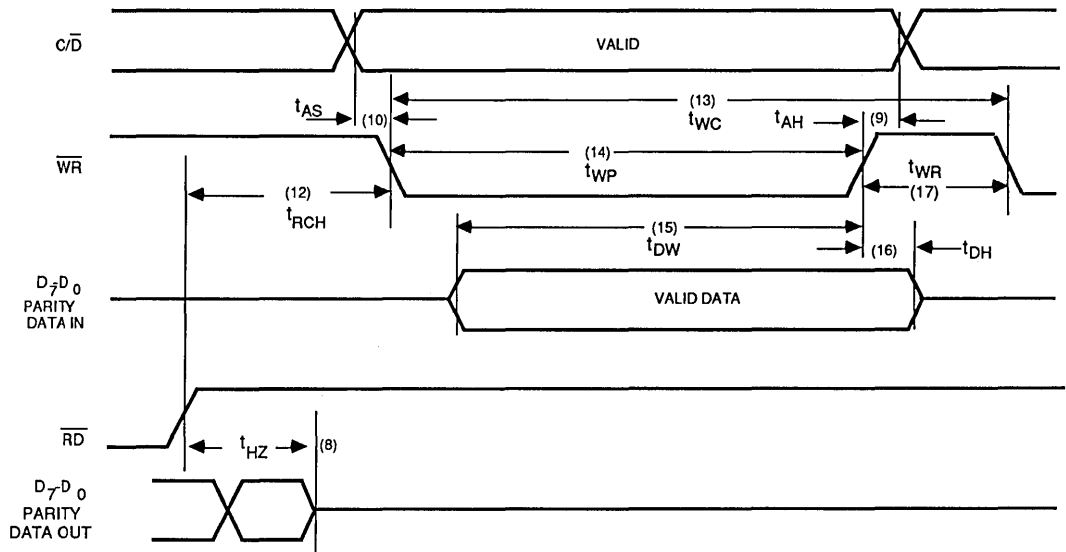

Figure 12. Write Cycle (Either Port)
**Write Cycle (Fig. 12, 21, 22)**